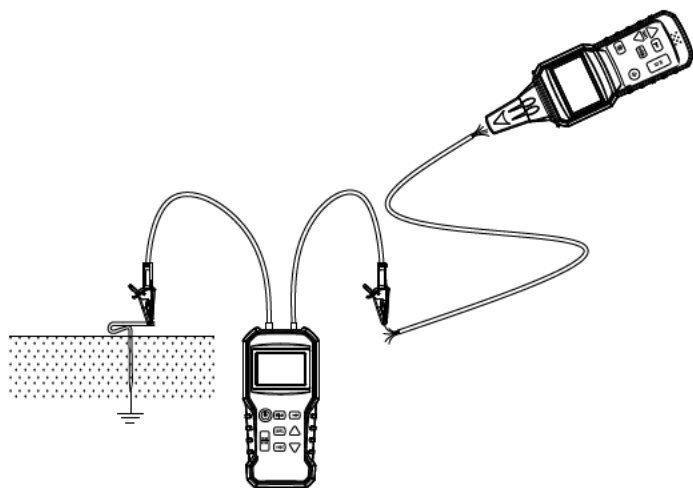

Figure 6 Using the supplied earth ground spike (rod)
2. Refer to Figure 6 in the Application Illustrations section.